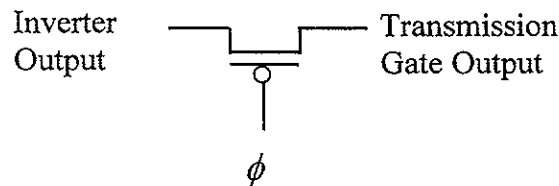

Figure Q2
- Q.2 Consider a single transistor version of a transmission gate shown in Figure Q2. The input to this transmission gate is connected to the left device terminal which is driven by an inverter on the left, while the output is taken from the right terminal of the device. Clock ϕ is connected to the gate of this device. For what logic level of ϕ would input be transmitted to the output? Is there any logic degradation problem with this gate? Explain.
In this part of the question, use the dotted sheet provided and colour pencils to draw a custom layout of the transmission gate shown in Figure Q2 along with the inverter on the left with built in ease to route ground and power lines. Obey all λ based design rules. Use a scale of 2λ = spacing between dots and conform to standard colour codes. The standard colour codes are brown for n-well, black for contact, blue for the only metal layer, red for polysilicon, green for n-type source-drain (NSD) and purple for p-type source-drain (PSD). Choose device dimensions of $W = 4\lambda$ and $L = 2\lambda$ for all devices. In the λ based design rules, the n-well coverage of PSD is 3λ , the unconnected PSD-NSD spacing is 8λ , the minimum dimension/spacing of metal, poly, NSD, PSD and contact is 2λ , the coverage of contact by connecting layers is λ on all sides, the poly extension beyond NSD/PSD is 2λ and poly to NSD/PSD contact spacing is 2λ .